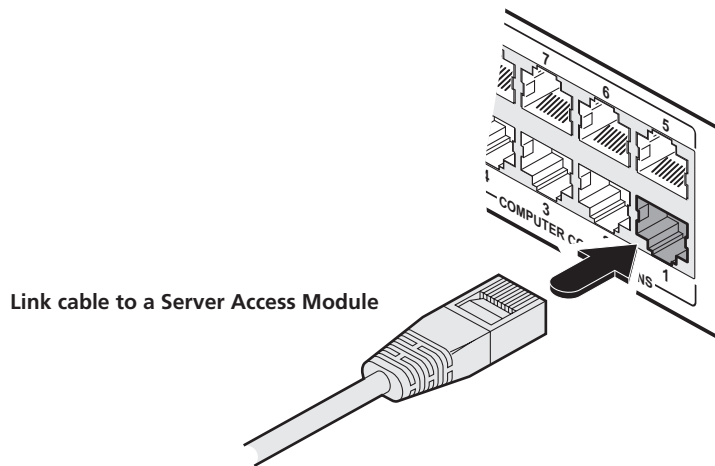

Figure 3-3. Connect a CAT 5, 5e or 6 link cable to a COMPUTER CONNECTIONS port.
- 2 Connect a CAT 5, 5e or 6 link cable to one of the COMPUTER CONNECTIONS ports. See Figure 3-3.